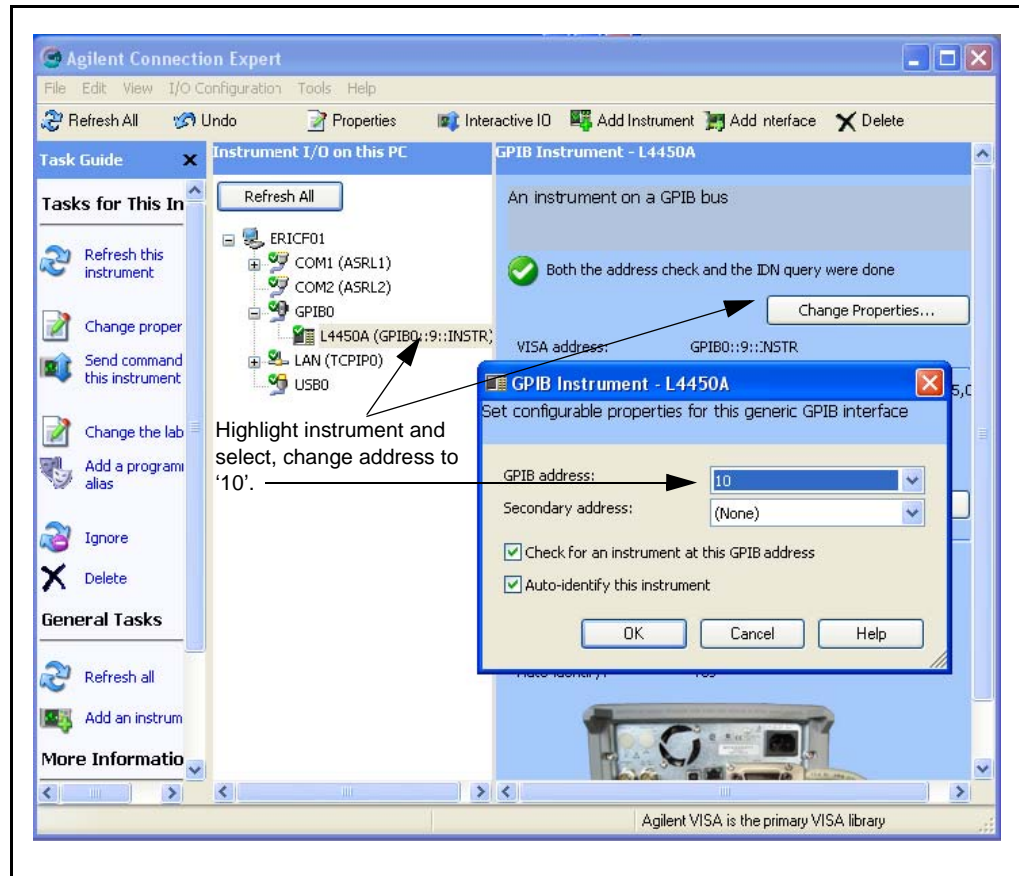

Figure 2-20. Changing the GPIB Address within Configuration Expert.
4. Change the address in the Agilent Connection Expert’s configuration table to the new instrument address (Figure 2-20).